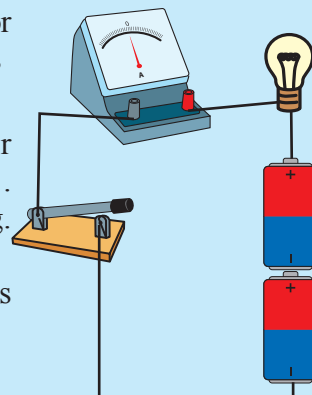

Figure 10.21 ▲
- Connect the bulb, the switch, the ammeter or milliammeter and dry cells as shown in Figure 10.21.